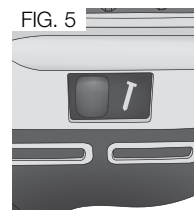

FIG. 5
SEQUENTIAL ACTION ↗ (FIG. 5)
1. Slide the selector switch to the left, as shown in Figure 5.